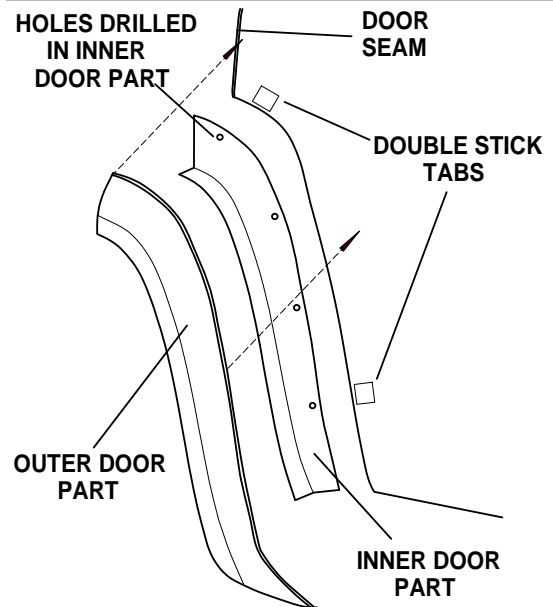
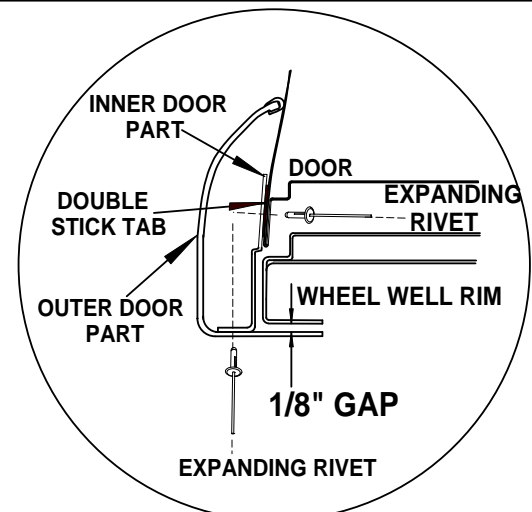

FIGURE 4
FIGURE 5
- (A) Drill four holes in each inner door part, and three holes in each outer door part with a 3/16" drill bit, using the indents in the parts as a guide. See FIGURE 4.
- (B) Apply two double stick tabs to the door at positions indicated in FIGURE 4. Stick the inner door part onto the door aligning it with the rear main part and the wheel well opening. See FIGURE 5.
- (C) Hold the outer door part onto the inner door part to confirm part to part and part to door seam alignment. Also confirm that there is a 1/8" gap between the outer door part and the wheel well opening. See FIGURE 5.
- (D) If necessary for proper fit, reposition the inner door part and repeat last step.
- (E) Remove outer door part. Open the rear door and drill four 3/16" holes through the door using the holes in the inner door part as a guide.
- (F) Secure the inner door piece to the door from the inside using four expanding rivets. See FIGURE 5.
- (G) Position outer door part on the inner door part leaving a gap of approximately 1/8" between wheel well rim and flare to allow for proper door operation. Using moderate pressure on outside surface of flare, drill three 3/16" holes through inner door part using holes in outer door part as guide. Secure with three expanding rivets. See FIGURE 5.